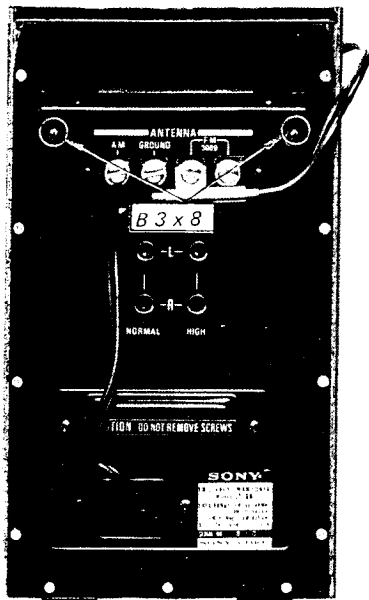

Fig. 2-1. Wooden case removal
2. Remove the two screws as shown in Fig. 2-1.